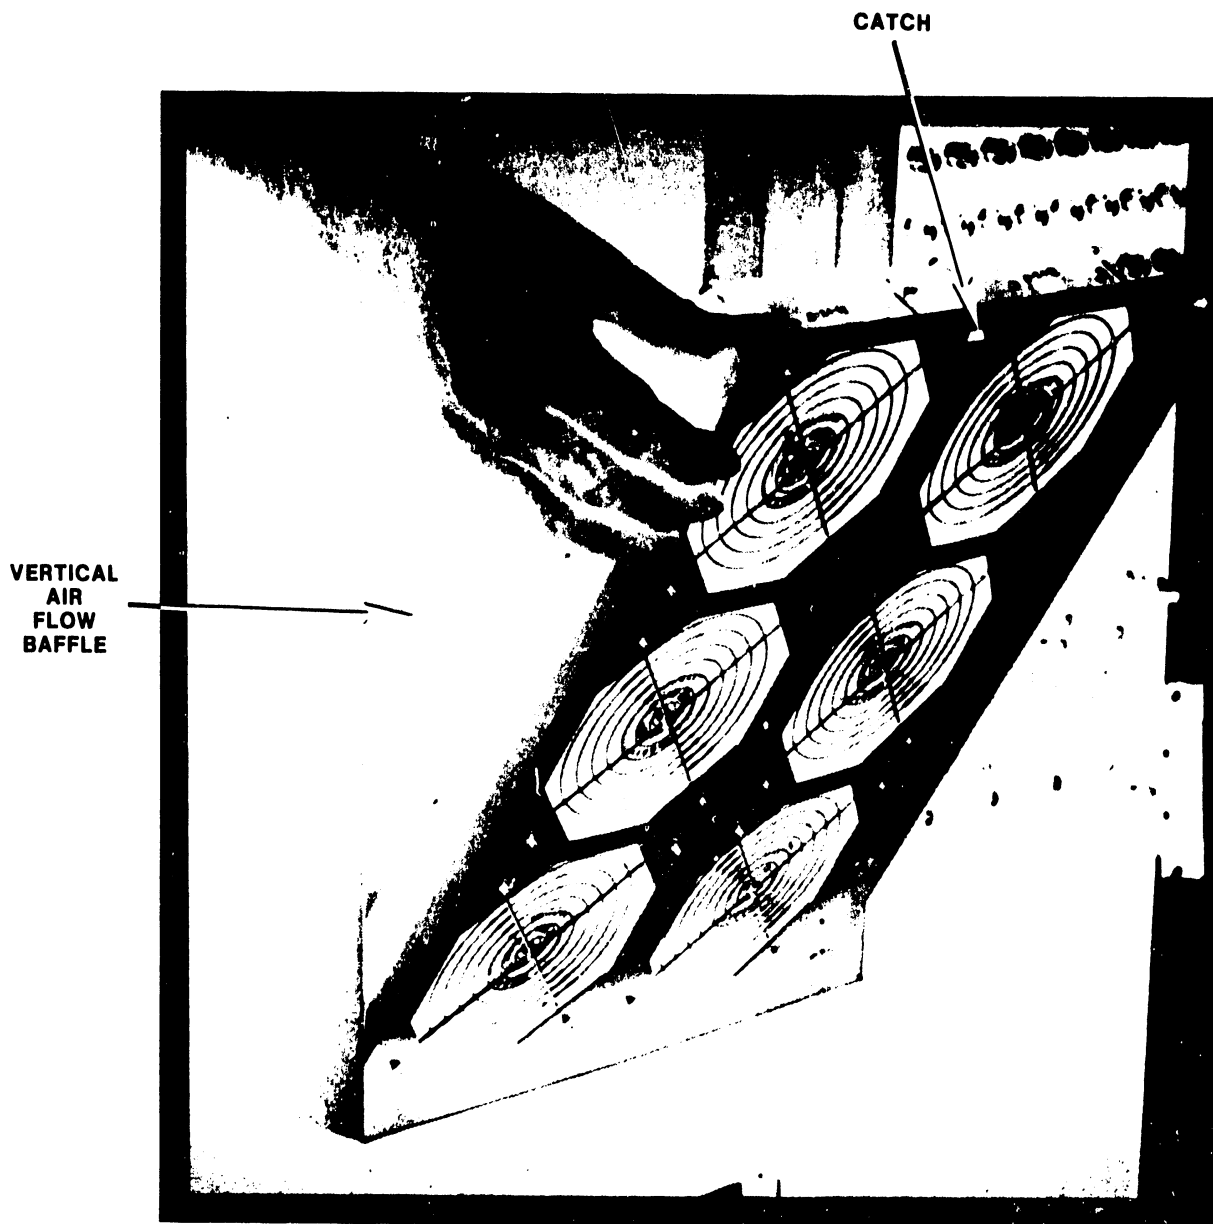

Figure 5-39. Lowering Fan Assembly
3. Grasp the catch inside the top of the panel and pull the top out. Lower the panel down to the horizontal position. (Figure 5-39.)